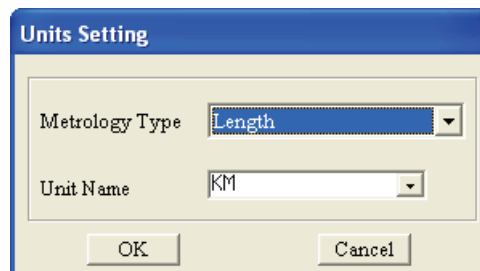

Figure 1-104
Step 1. After choose **Object(O) > Units(U)** command from the menu bar or click the icon  to create a Units object on the screen. Double-click the object by using the mouse, the following Units Setting tab will pop up (Figure 1-104)